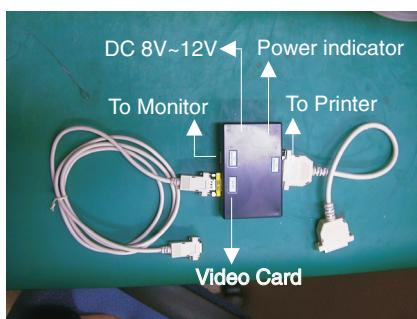

Fig. 2 Alignment Kits
4. Software DDC Alignment kits (4822 310 11184) shown as Fig. 2.